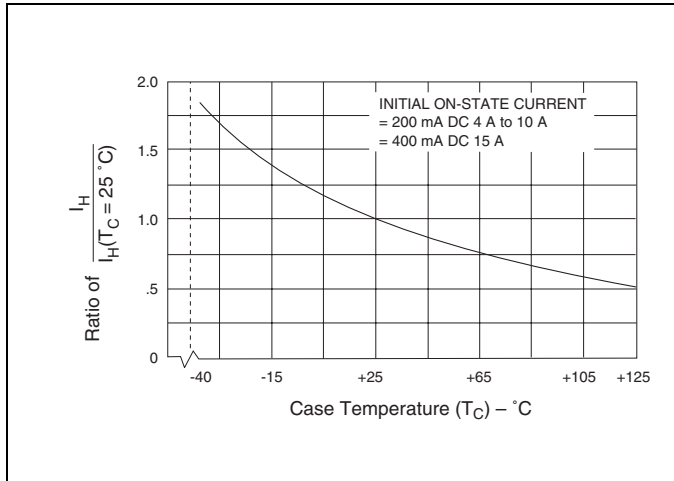

Figure E3.1 Normalized DC Holding Current versus Case Temperature
- (1) For either polarity of MT2 with reference to MT1
- (2) See Figure E3.1 for I_H versus T_C.